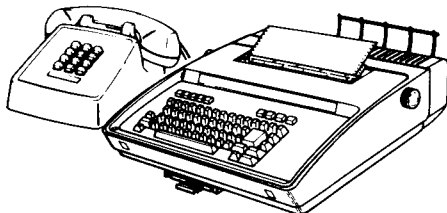

Fig. 1—43 KSR Station (Sprocket Feed)
1.01 This section provides station installation and removal information for the 43 KSR and RO Station (Fig. 1).